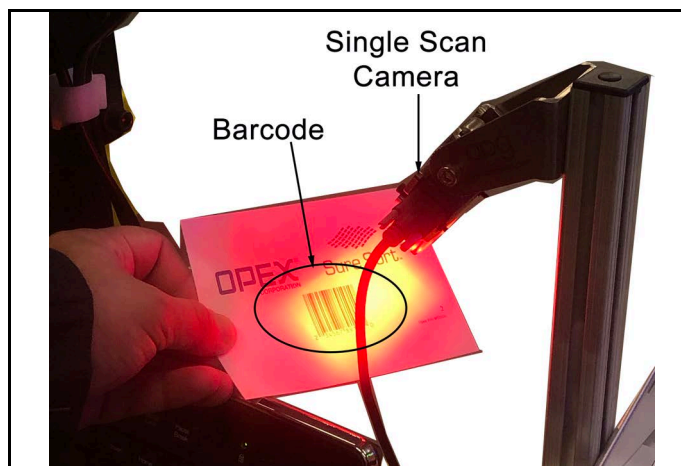

Figure 4-36: Scanning a Barcode
3. If you are using the Single Scan Camera, hold the item with the barcode facing up directly under the camera (see Figure 4-36). If you are using the Hand Scanner, place the scanner light at the center of the barcode.